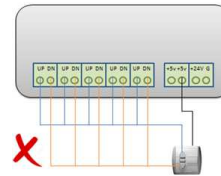

Fig.5
- All DCT input port cannot be connected (short circuit) together. (fig.5)